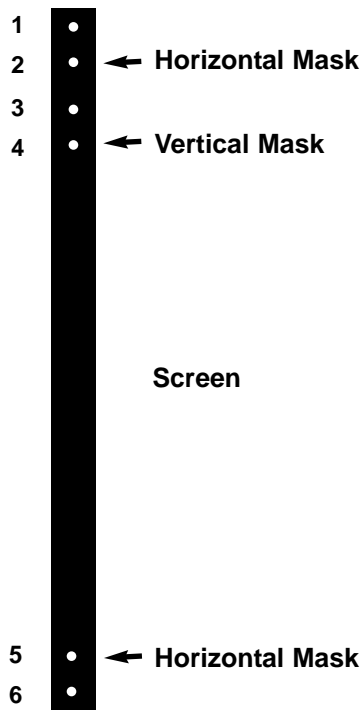

Figure 15: DOWN limit switches are 2, 4, and 5.
The limit switches are located on the head of the motor and can be accessed through openings located on the left side of the frame, as shown in Figure 15.
The UP limit switch(es) retract the batten(s) further into the unit. Adjusting them is not advised. Refer to 1, 3, or 6 as appropriate in Figure 15.
2. Locate the down limit switch(es) located on the left side of the frame. Refer to 2, 4, or 5 as appropriate in Figure 15. Use a screwdriver to turn the switch in a counterclockwise direction. If the power is on, the mask will drop incrementally as the switch is turned.
2. Locate the down limit switch(es) located on the left side of the frame. Refer to 2, 4, or 5 as appropriate in Figure 15. Use a screwdriver to turn the switch in a clockwise direction.